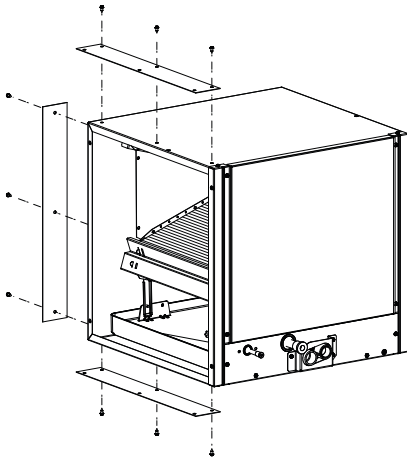

Fig. 5 – Mount Attachment Plates
2. Use self-tapping screws to mount attachment plates to coil casing. See Fig. 5.